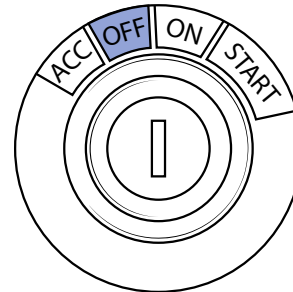

Figure 17 - Ignition switch
4. Turn off the ignition switch and remove the key (Figure 17).